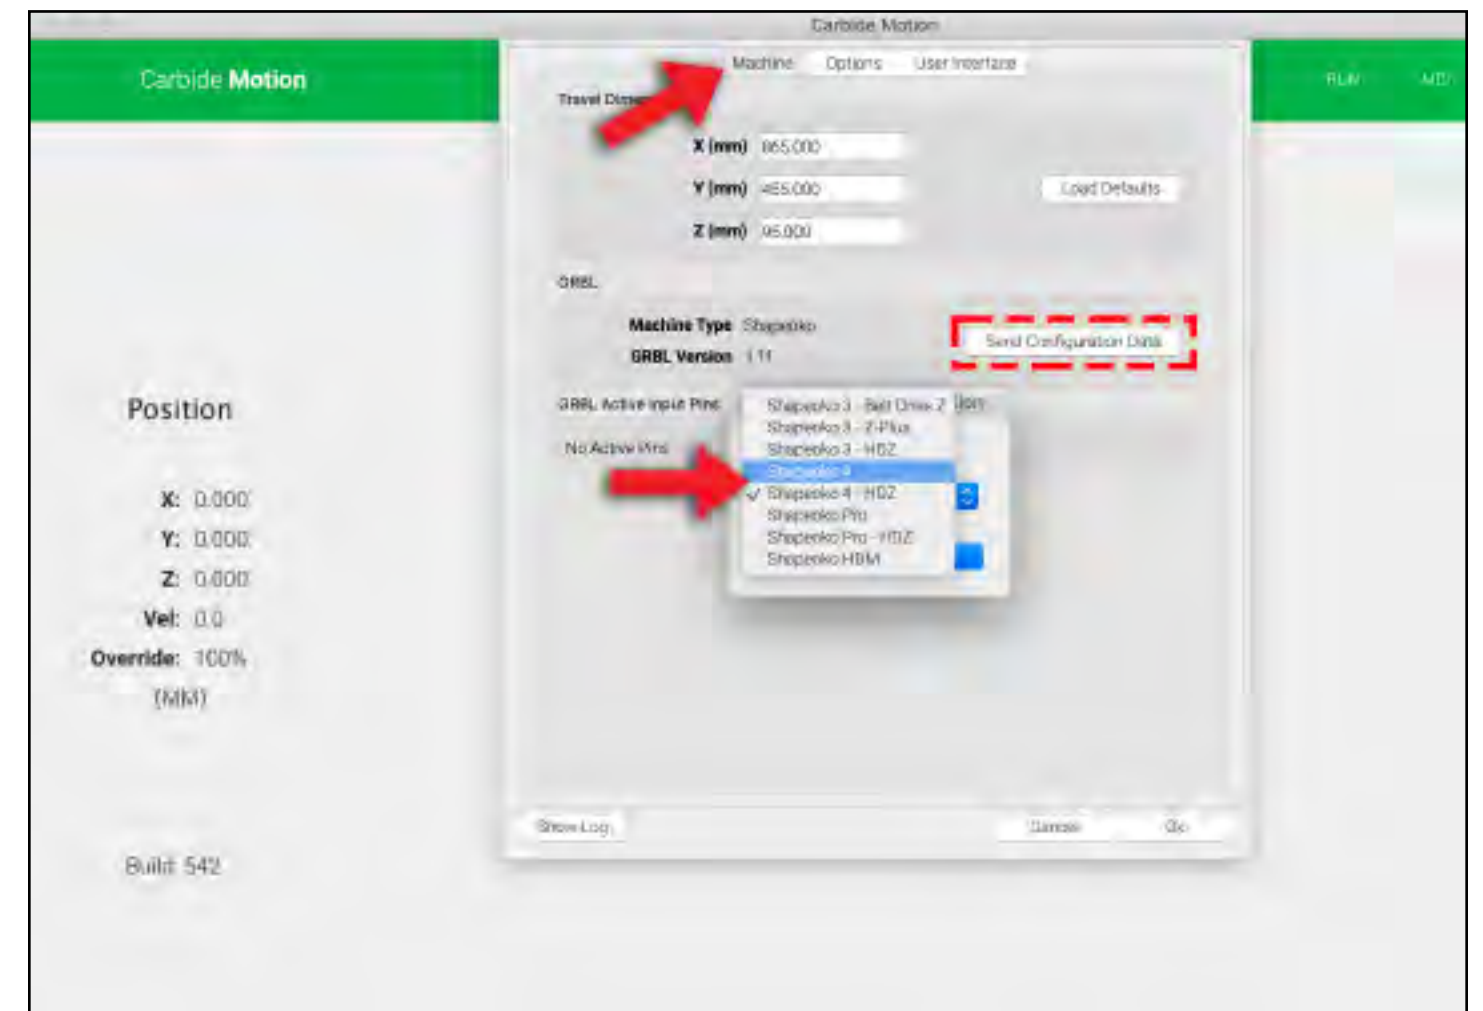

Figure 10-2
2. Click the **Machine** tab at the top of the window if it does not open by default. See Fig. 10-2.
3. Click the **Send Configuration Data** button. See Fig. 10-2.
4. In the *Send Configuration popup* choose your Machine Type from the dropdown list (see Fig. 10-2):